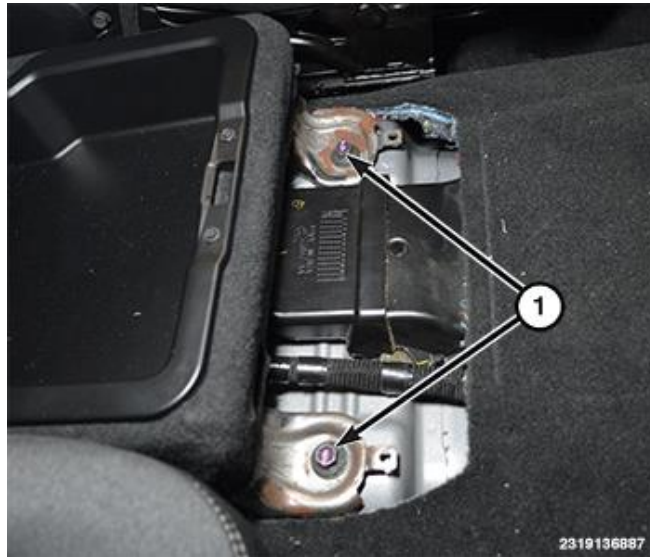

Figure 9 – Center Seat Front Fasteners
6. Remove the bolts (1) at the front of the center seat (Figure 9).
28. Install the center seat front bolts, then tighten the bolts to 70 N·m (52 Ft. lbs.) (Figure 9).